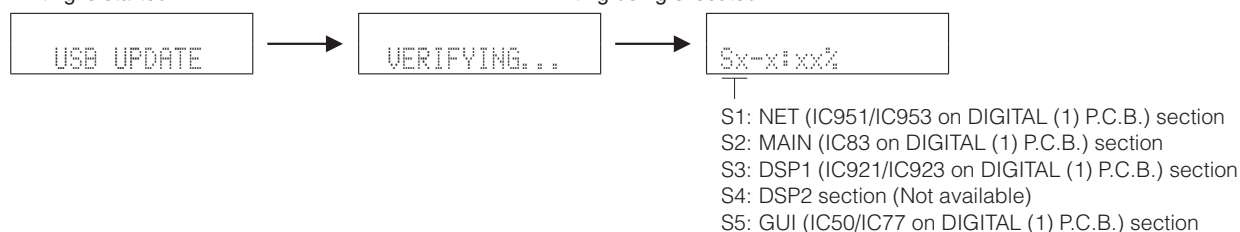

Fig. 2
3. The USB UPDATE mode is activated and "USB UPDATE" is displayed. Writing of the firmware starts automatically. (Fig. 2)